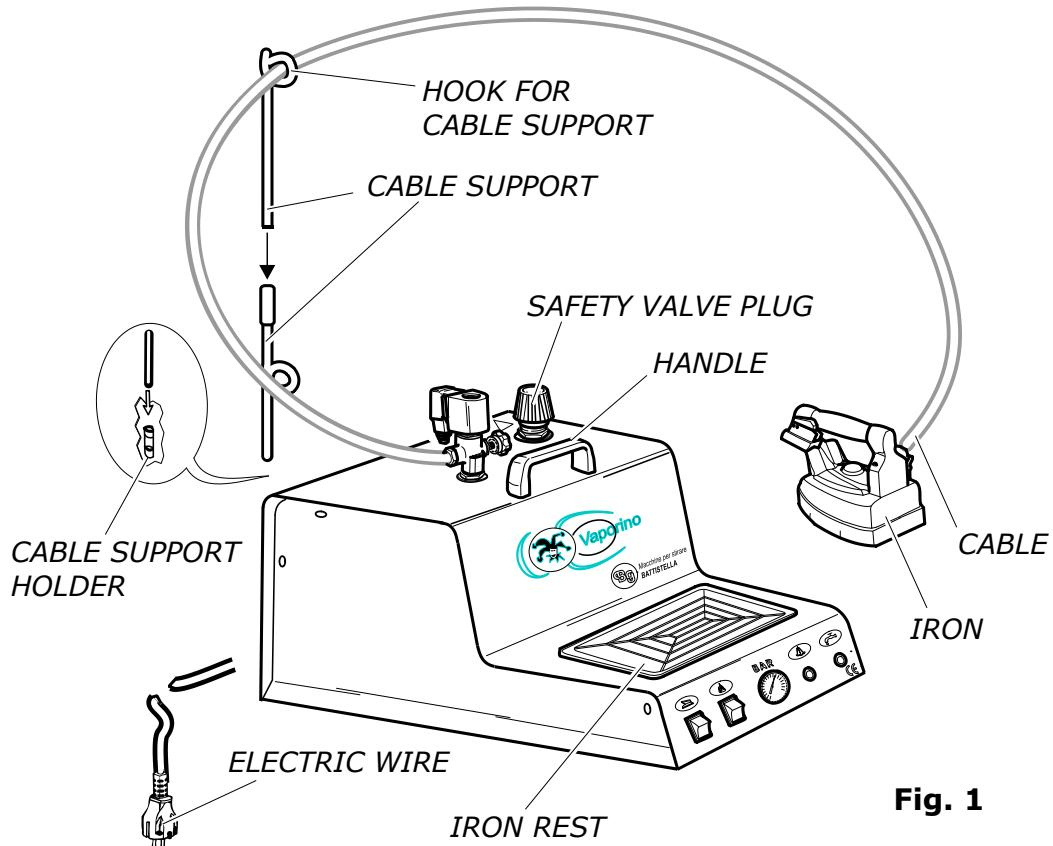
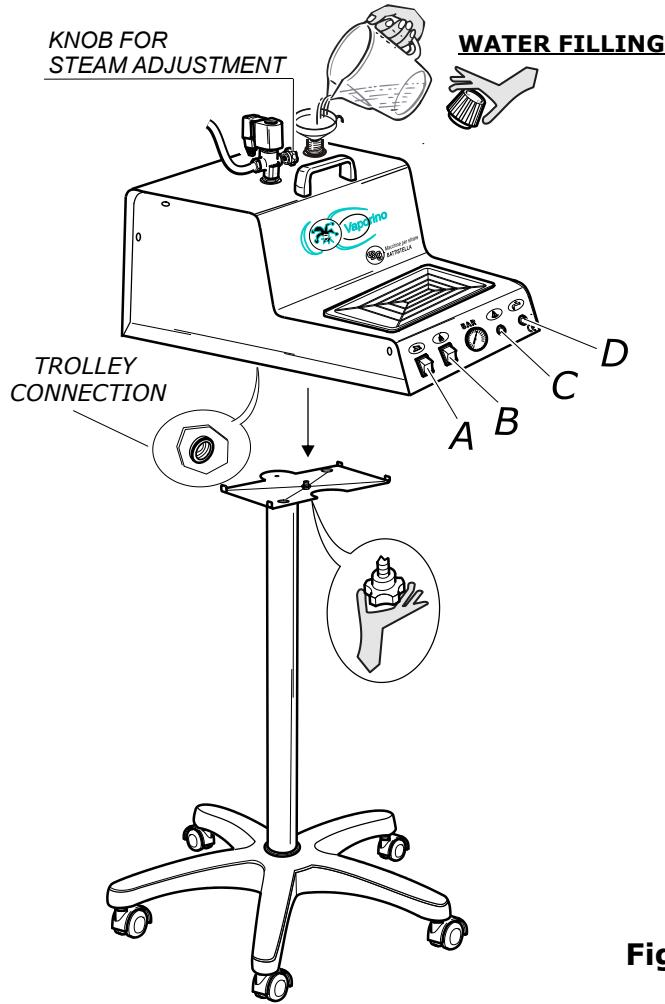
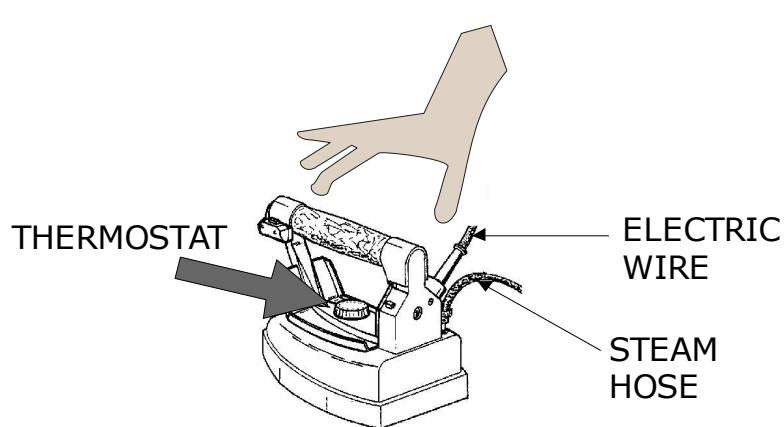
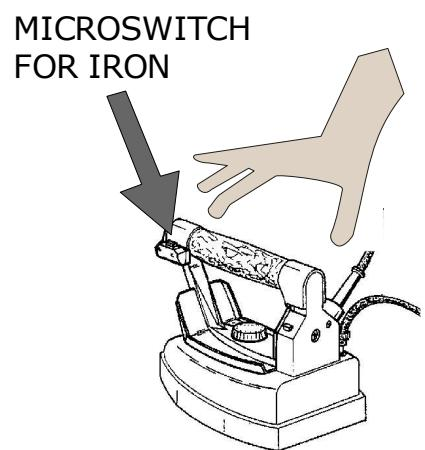

Fig. 1
Fig. 2
Fig. 3
Fig. 4
Before installing VAPORINO INOX MAXI, it is necessary to set up a protected electrical socket suitable to VAPORINO INOX MAXI power (it is better to use an earth protector magneto-thermic switch 16 A Id 30 mA). For the transport and the movement of VAPORINO INOX MAXI, take the generator only by the specific handle. Never pull its electric wires (fig. 1).
2. Remove VAPORINO INOX MAXI from the box, assemble the cable support and insert it deep into the special support holder placed on the back side of VAPORINO INOX MAXI (fig. 1).
4. Place the iron on the rubber iron rest supplied with the machine (fig. 1).
5. For VAPORINO INOX MAXI supplied with trolley: screw the trolley knob on the proper connection under the base of the VAPORINO INOX MAXI (fig. 2).
1. Unscrew the security valve plug of VAPORINO INOX MAXI (fig. 1) and fill the boiler with water to the desired level (fig. 2) paying attention not to overfill it. It is advisable to use a funnel. Take the plug by the plastic part and screw it again: do not tighten too much or its gasket might get spoilt (see section 7).
3. Switch on the boiler (fig. 2 B) and the iron switch (fig. 2 A) and adjust the thermostat of the iron (fig. 3) on "cotton".
4. Wait for the boiler lamp to switch off (fig. 2 C): the manometer should mark about 2,5/3 bar. At this point seize the iron by cork handle and press the micro-switch of the iron (fig. 4) for 4 or 5 times, so that steam comes out. It is important to make sure that the steam is saturated (by pressing the micro-switch with the iron pointed towards the floor). It is also possible to adjust steam flux by turning the regulation knob (fig. 2). Now everything is ready for ironing. During ironing operation, the boiler lamp switches on and off signalling that the machine is working properly (fig. 2 C).
11. **Never replace the safety valve plug (fig. 1) with other types of plug. N.B. the safety valve plug is set on 4,5 BAR and it has the function of a safety valve.**
1. Run the iron on garments, pressing the micro-switch of the iron at intervals (fig. 4) so that steam comes out.
3. During ironing operation, always put the iron on its rubber rest (fig. 1).
4. For dry ironing it is possible to adjust the thermostat (fig. 3) on different positions according to the type of fabric (look at garment label). For steam ironing set the thermostat on "cotton" or "linen" (**N.B.:** the thermostat of TULIPANO irons must be set between "wool" and "cotton").
5. When VAPORINO INOX MAXI is used with a non-vacuum board, some circular water spots might form. In this case, reduce the steam flux through the hand-wheel for steam regulation (fig. 2). It is recommended to combine the machine with a vacuum and heated ironing board.
When the water in the boiler is over, the lamp "no water" (fig. 2 D) switches on. At this point disconnect the plug, rotate the valve plug (fig. 1) of 360° and wait for steam to go out completely (the manometer has to indicate 0 bar). Unscrew the valve plug with care and wait 5/10 minutes.
Then fill the boiler up to the desired level (fig. 2) paying attention not to overfill the water on it (see section 4 point 1). Screw the safety valve plug again, connect the plug and wait for the boiler lamp to switch off (fig. 2 C). Now the iron is ready again.
Unscrew the safety valve plug (fig. 1) and rotate the VAPORINO INOX MAXI rightwards so that water and possible impurities come out.
3. steam tube and iron cable once they seem damaged (fig. 3);
4. the safety valve plug every 2500 hrs. or maximum every 3 years (fig. 1).
6. iron overheating or loss of water from iron (fig. 3);